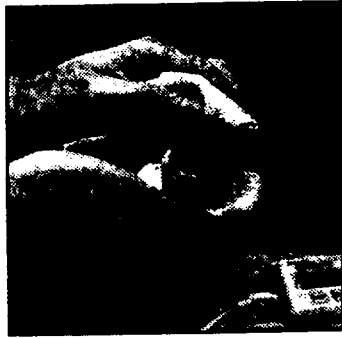

Fig. E.12
- g. Clean the coupling gel from the THM transducer surface with a soft cloth, tissue or paper towel. This is very important to prevent the gel from drying on the transducer surface and interfering with its spring-loaded mechanism (Fig. E.12). Use a damp cloth or paper towel to remove any dried gel residue. **Never immerse the THM in water.**